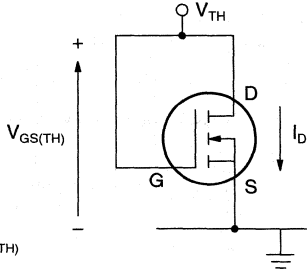

Figure 2:
- A. $V_{GS(TH)}$ – The gate threshold voltage. It is defined as the voltage from gate to source required to produce a specified drain current. For ease of measuring, the drain is commonly shorted to the gate. (The measurement circuit is shown in Figure 2.)